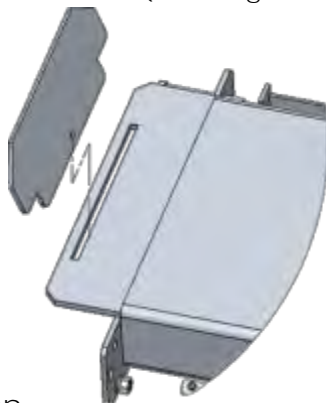

Fig.29
O. Install front wheel platform baffles (See Fig. 29)